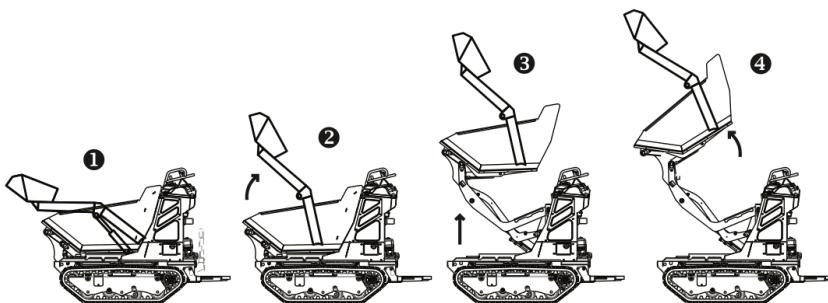

fig. 4.10 – Position for High Discharge (HAC)
3. **WITH THE MACHINE STOPPED**, raise the skip to the desired height by pushing the lifting lever forward (2 - see fig.4.10).
3. Pull the self-loading device lever backward to its full stroke to raise the bucket (2 – see Fig. 4.10).
4. Raise the skip to the desired height by pushing the lifting lever forward (3 – see Fig. 4.10).